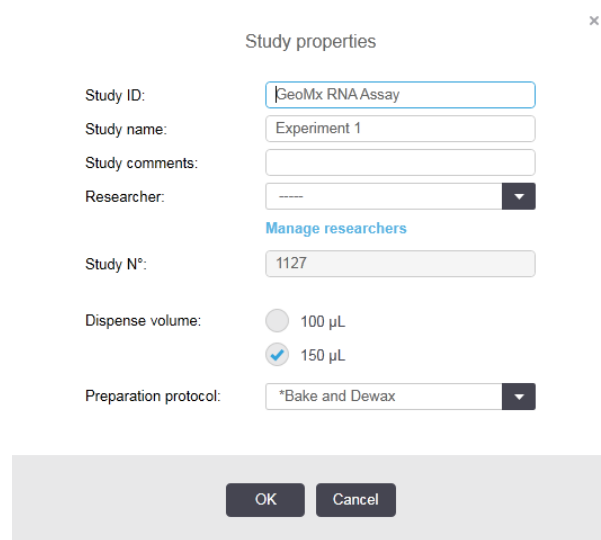

Figure 40: Add study window
- In the **Add study** window (see Figure 40), enter your study information.